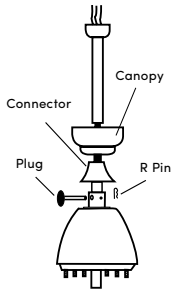

Figure 5
- 2** Take off the plug from the down rod by removing the R pin. Slide the down rod through the canopy and connector. Slide the fan body electrical wire through the down rod. Sit the down rod into the fan body and rotate the down rod until the holes on the down rod align with the holes of the fan body. Slide the plug through the holes and secure it with the R pin on the other side. Finally, tighten the other two screws. (Fig. 5)